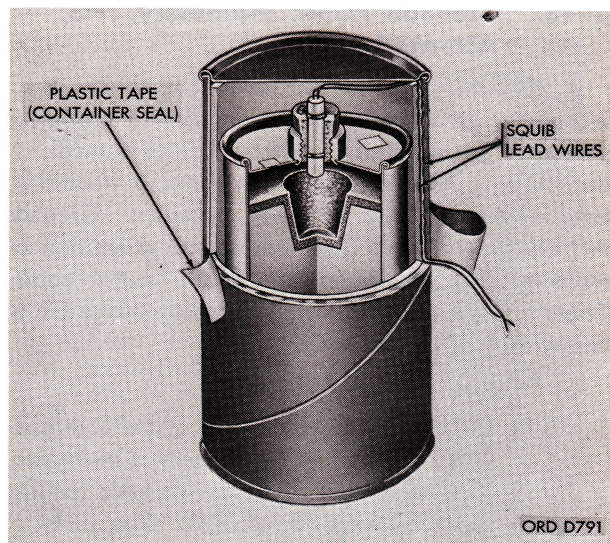

Figure 2-16. Grenade, AN-M14, modified for electric ignition.
- (d) The lanyard may then be extended to a protected firing position. Make sure that the lanyard is free to move and that it is not under tension. A pull on the lanyard will withdraw the safety pin, causing the grenade to function. The grenade then functions as in (1) above.
d. *Modification for Electric Ignition.* Grenade AN-M14 may be modified for electric ignition (fig. 2-16) by replacing the fuze assembly with an electric squib.